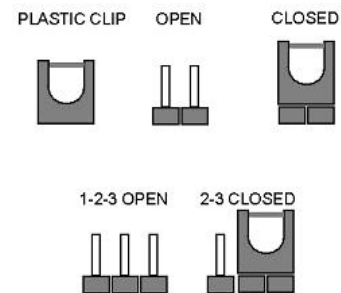

Figure 5-8: Jumper Locations
- Jumper Location:** See **Figure 5-8**
The location of the AT/ATX Power Select jumper is shown in **Figure 5-8**.